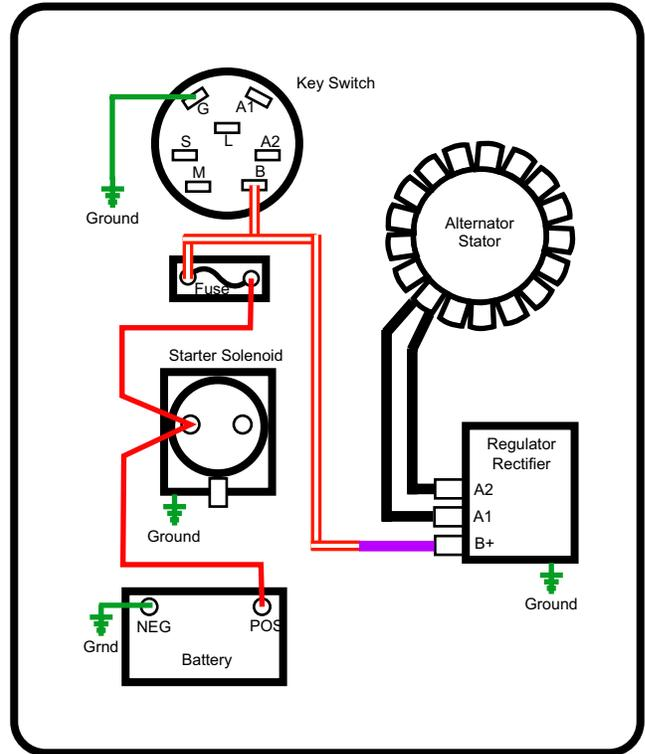

Figure 7.31
5. From the harness connector: See Figure 7.31.